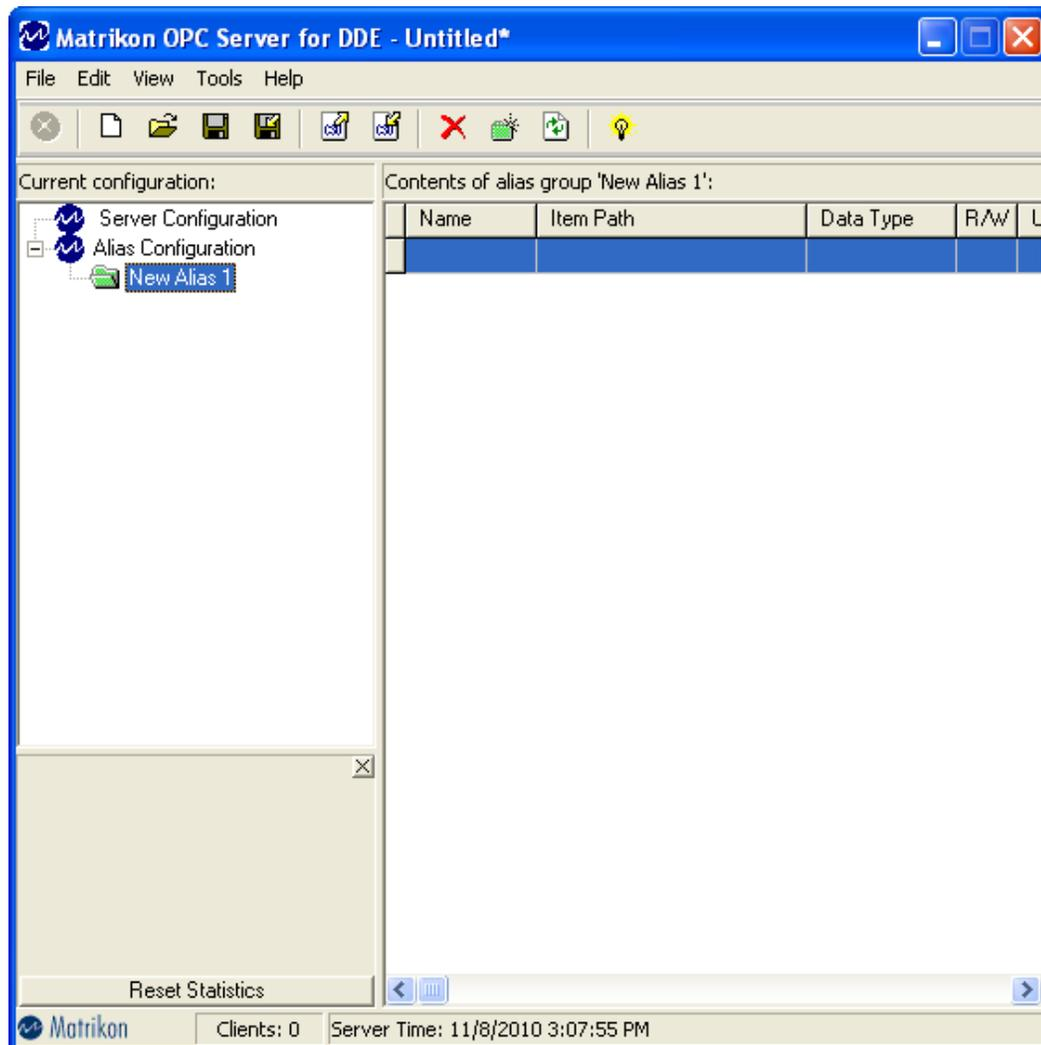

Figure 4 - New Alias Group
5. An alias group folder called **New Alias 1** appears beneath the **Alias Configuration** item. The contents of the new alias group (currently blank) are shown in the **Contents** pane (Figure 4).